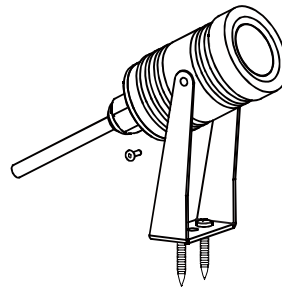

Fig 1.3
1.3 Assemble the bracket to housing by the M3 screws. (See Fig 1.3)